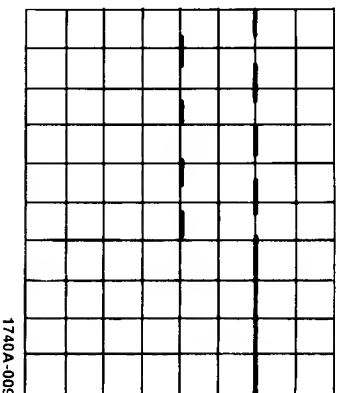

Figure 7b. Mixed Sweep Display
4. Press MIXED **49** and notice the first portion of the display is at the main TIME/DIV **34** sweep rate and the second portion is at the delayed TIME/DIV **35** sweep rate (see figure 7b). You can vary the transition point from main sweep to delayed sweep by adjusting the DELAY **47** control.